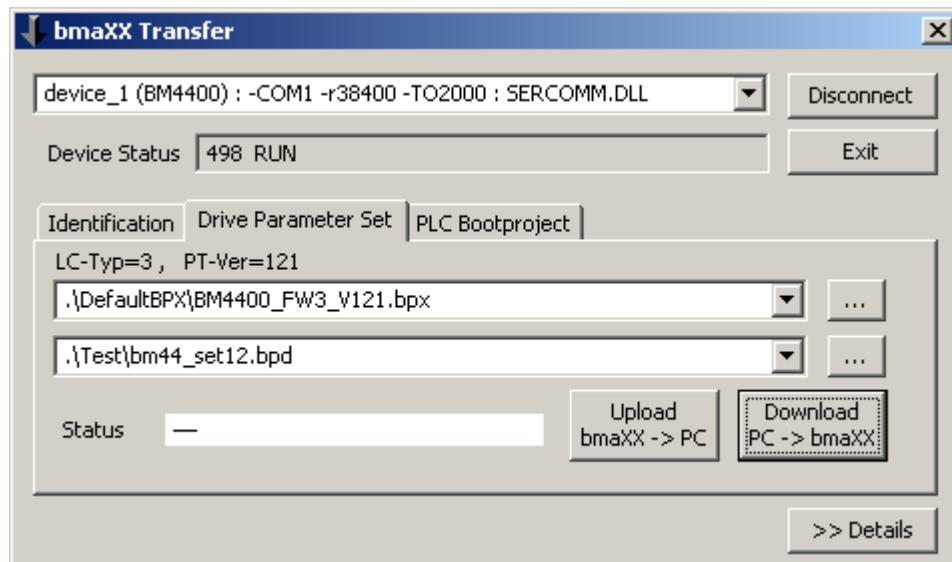

Figure 13:
►Figure 13 is an image showing the last three options referred to.